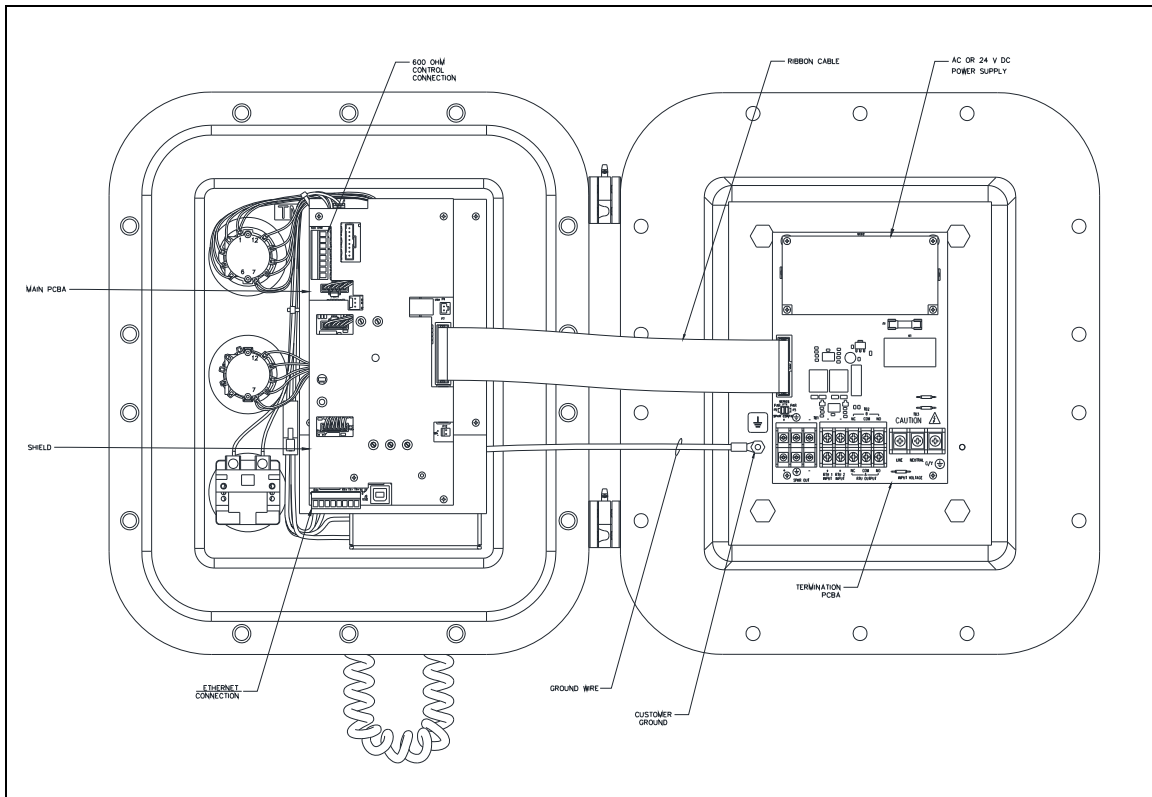
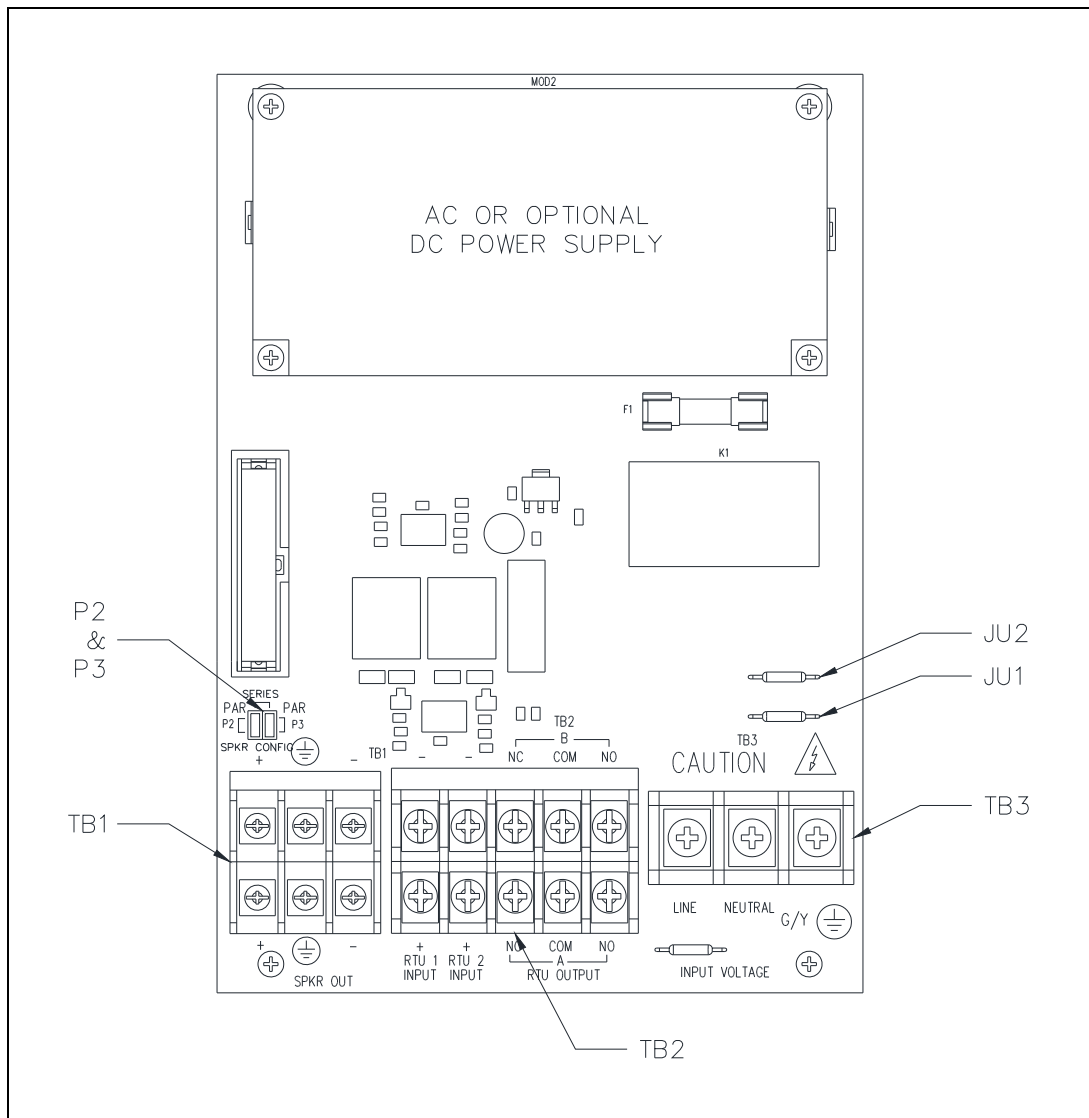
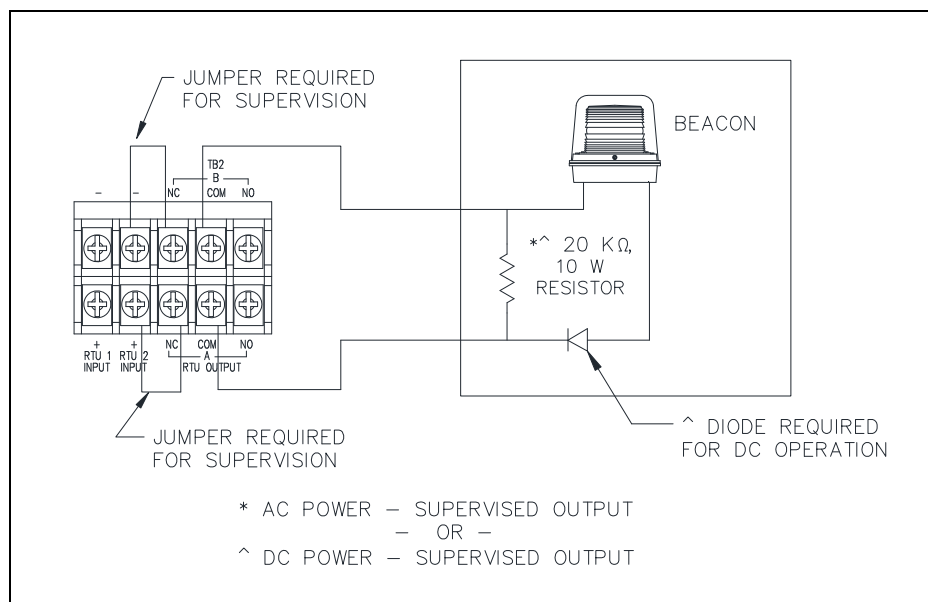

Figure 5. SP2 Standard Hazardous Area Station—Interior View
Figure 6. SP2 Standard Termination PCBA
Figure 9. Supervised Output Wiring—TB2
2. Secure it to the ground terminal located on the back of the rear enclosure on the left side (see Figure 5).
5. Configure the speaker jumpers; P2 and P3, for the appropriate impedance for use with 8-ohm or 16-ohm speakers (see Figure 5 and Figure 6).
The standard Termination PCBA contains two auxiliary RTU inputs. These inputs are terminated at terminal block TB2 (see Figure 6).
Two Form “C” contacts are provided to power a beacon (see Figure 9). These outputs can be reconfigured for dry contact use by removing jumpers JU1 and JU2. Termination for these outputs is provided at terminal block TB2 on the Termination PCBA (see Figure 6).
5. Install a 20-kilohm 10-watt resistor across the terminals of the beacon cable (see Figure 9).
The ac or optional dc power supply is mounted on the Termination PCBA. The termination PCBA includes terminal block TB3 for connecting the local power source to the station (see Figure 6):